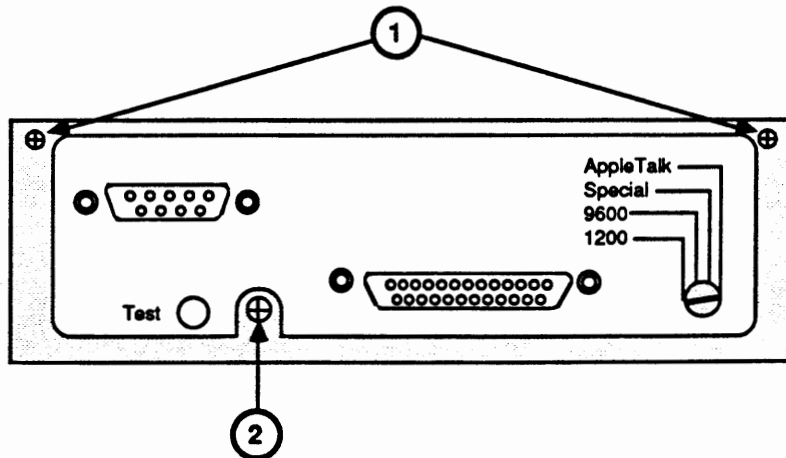

FIGURE 2-41
- c) Remove the two silver mounting screws (Figure 2-41, #1) and loosen the screw at the bottom of the plate (Figure 2-41, #2).